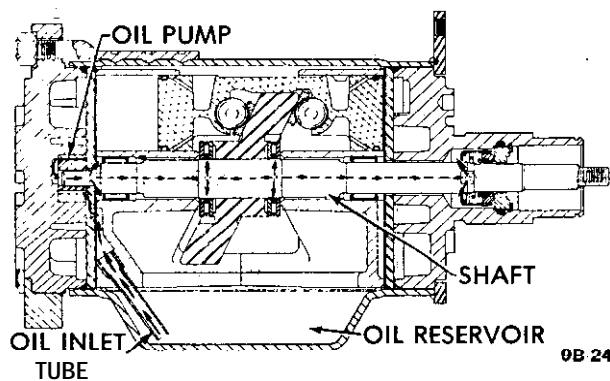

Figure 9B-27 Compressor Oil Flow
4. Shaft and Swash Plate Assembly • The shaft and swash plate assembly (see Figure 9B-162) consists of an elliptical plate positioned obliquely to the shaft. As the plate and shaft rotate, the surface of the plate moves to and fro lengthwise relative to the centerline of the shaft. This reciprocating motion is transmitted to the pistons which contact the surface of the swash plate. A woodruff key locks the swash plate onto the